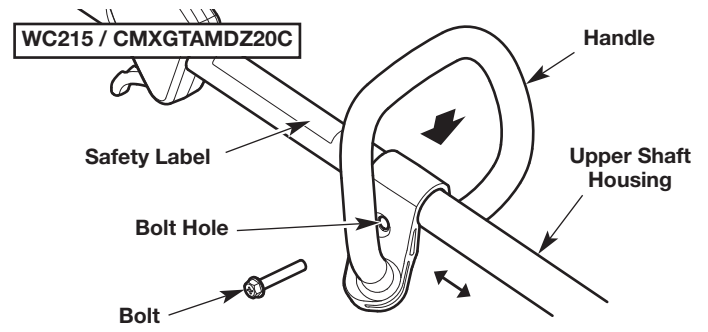
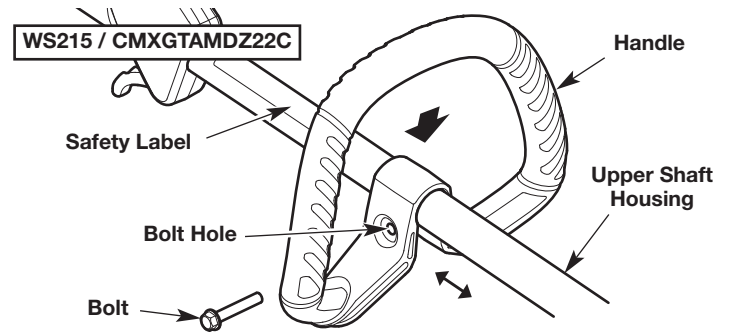

Fig. 8
Fig. 9
1. Push the handle down onto the upper shaft housing (Fig. 8 or Fig. 9). Make sure the bolt hole faces to the right (Fig. 8 or Fig. 9).
2. Insert the bolt into the bolt hole and push it through (Fig. 8 or Fig. 9). Tighten the bolt with a flat-head screwdriver, but do not tighten the bolt completely.
3. Hold the unit in the operating position (Fig. 13). Move the handle up or down the upper shaft housing to a comfortable location (Fig. 8 or Fig. 9). Make sure the handle is positioned beyond the end of the safety label (Fig. 8 or Fig. 9).
1. Loosen the bolt with a flat-head screwdriver (Fig. 8 or Fig. 9).
2. Hold the unit in the operating position (Fig. 13). Move the handle up or down the upper shaft housing to a comfortable location (Fig. 8 or Fig. 9). Make sure the handle is positioned beyond the end of the safety label (Fig. 8 or Fig. 9).